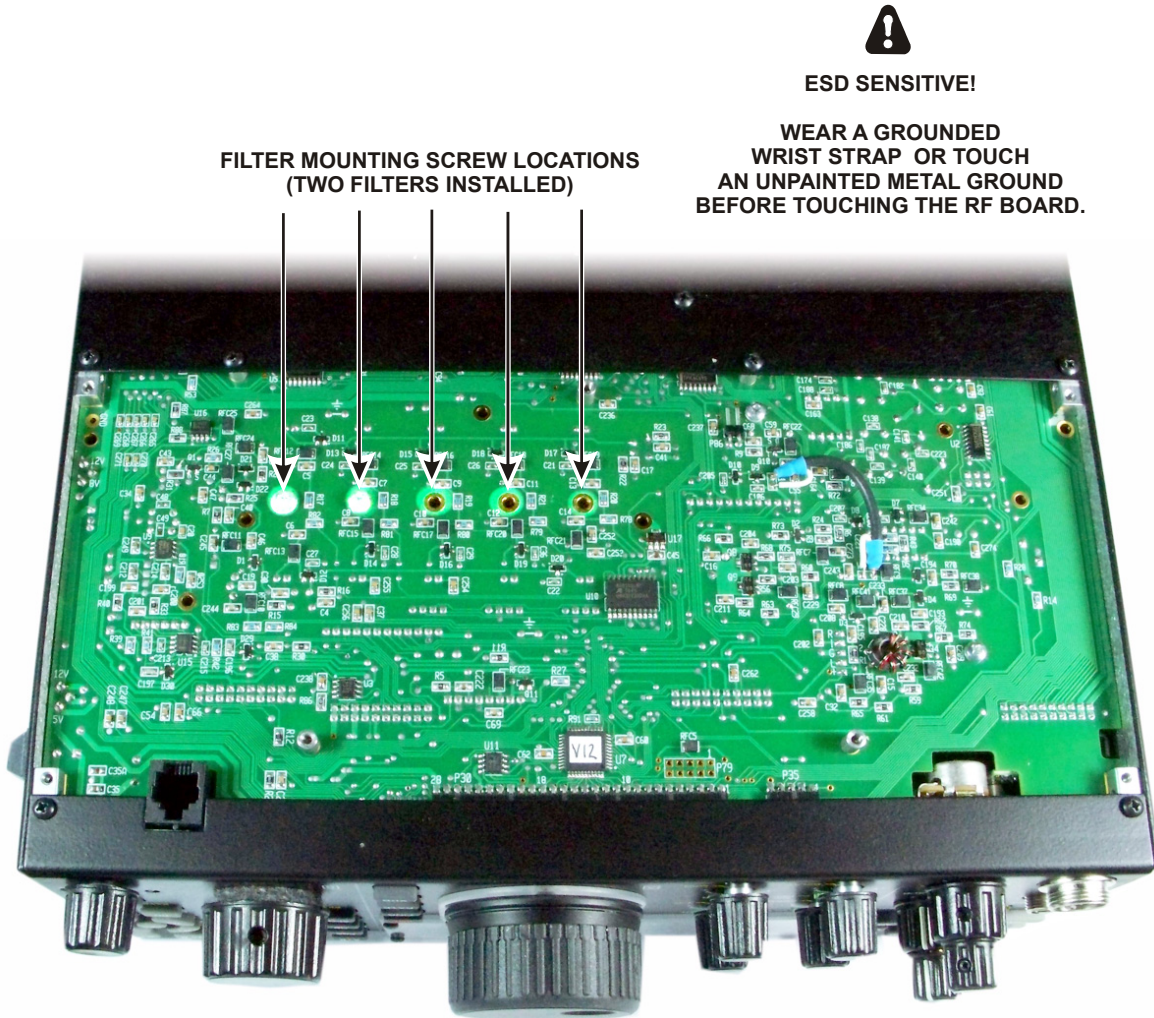

Figure 4. Filter Mounting Screw Locations.
- Remove the mounting screws and lock washers holding any existing filters that you need to move to maintain the order with the widest bandwidth filter closest to the FL1 position. The screw positions are shown in Figure 4.